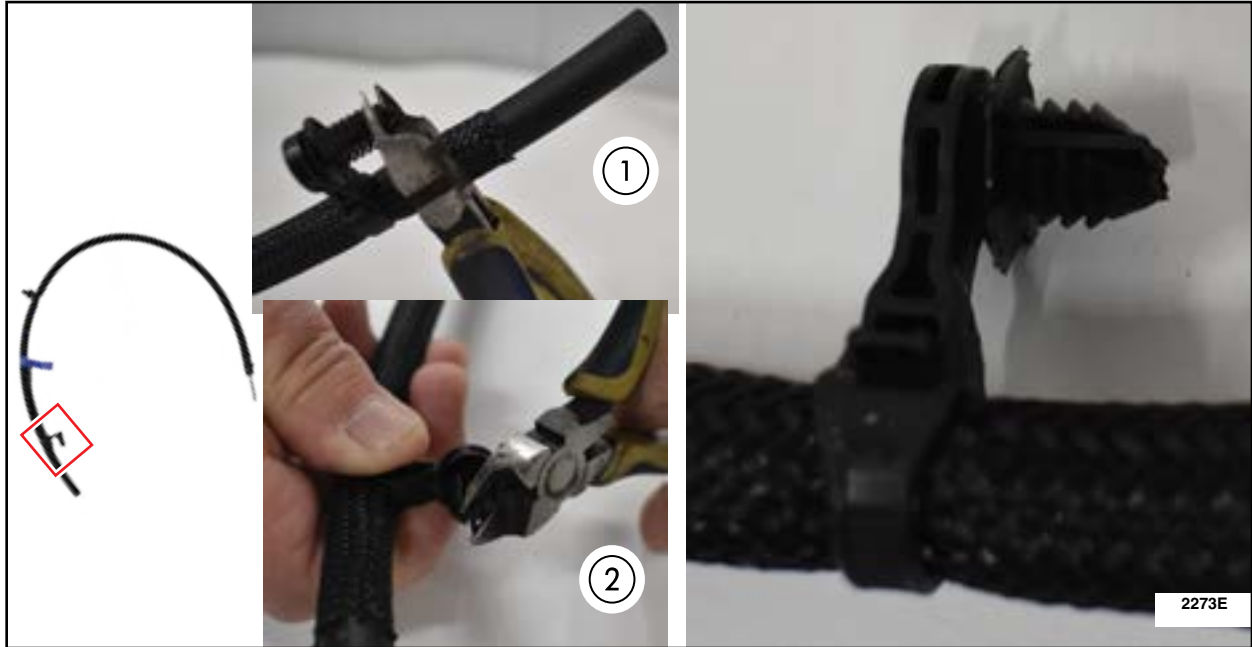

FIGURE 9
23. Cut the tip from fir tree fastener at the end of the tube. Trim the sides of the top 2 barbs at a 45-degree angle on the fir tree fastener to more easily allow fitment through the subframe hole. See Figure 9.